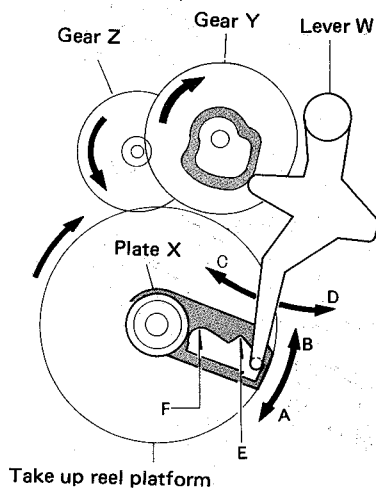

Fig. 14
- 1) By transmission from the take-up reel rotation, movement of lever W is of swinging "C ⇌ D" via cam on gear Y. On the other hand, plate X moves in the direction of "A" by means of slip torque from the take-up reel. But plate X is drawn back to the direction of "B" by stud on lever W when lever W swings in the direction of "C". Movement of the direction "D" of lever W releases plate X that is apt to move in the direction of "A". In this way, movement of "A ⇌ B" is generated. Stud on lever W, however, stops at gap "E" as long as the take-up is rotating. (See Figure 14.)
- 2) When the take-up reel stops, that is, at the end of the tape, the movement of "A ⇌ B" of plate X stops as well, but the movement of "C ⇌ D" of lever W continues due to the mechanism structure. This means that stud on lever W can move into gap "F" without being caught in the gap "E". (See Figure 14.)